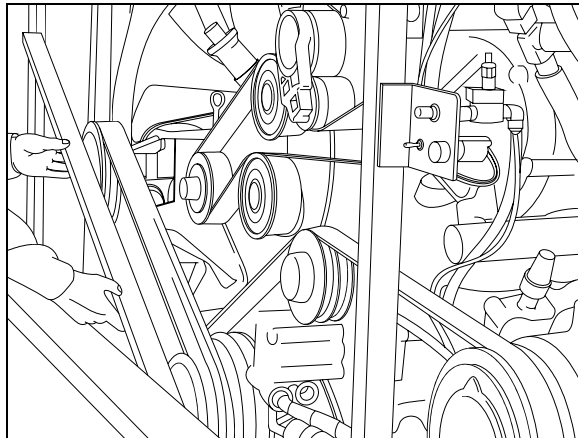

FIGURE 19: PULLEYS ALIGNMENT
- Using a straight edge, align the 3"V" pulley on gearbox central shaft pulley with engine pulley, while taking pulleys outer edge thickness under consideration i.e. 3"V" pulley's outer edge is thicker than that of engine pulley's (Fig. 19).